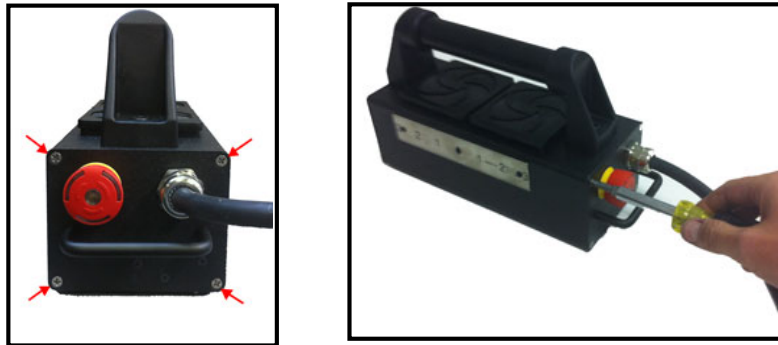

Figure 3
1. Remove the four corner screws on the cable end of the irradiator as shown in **Figure 3**